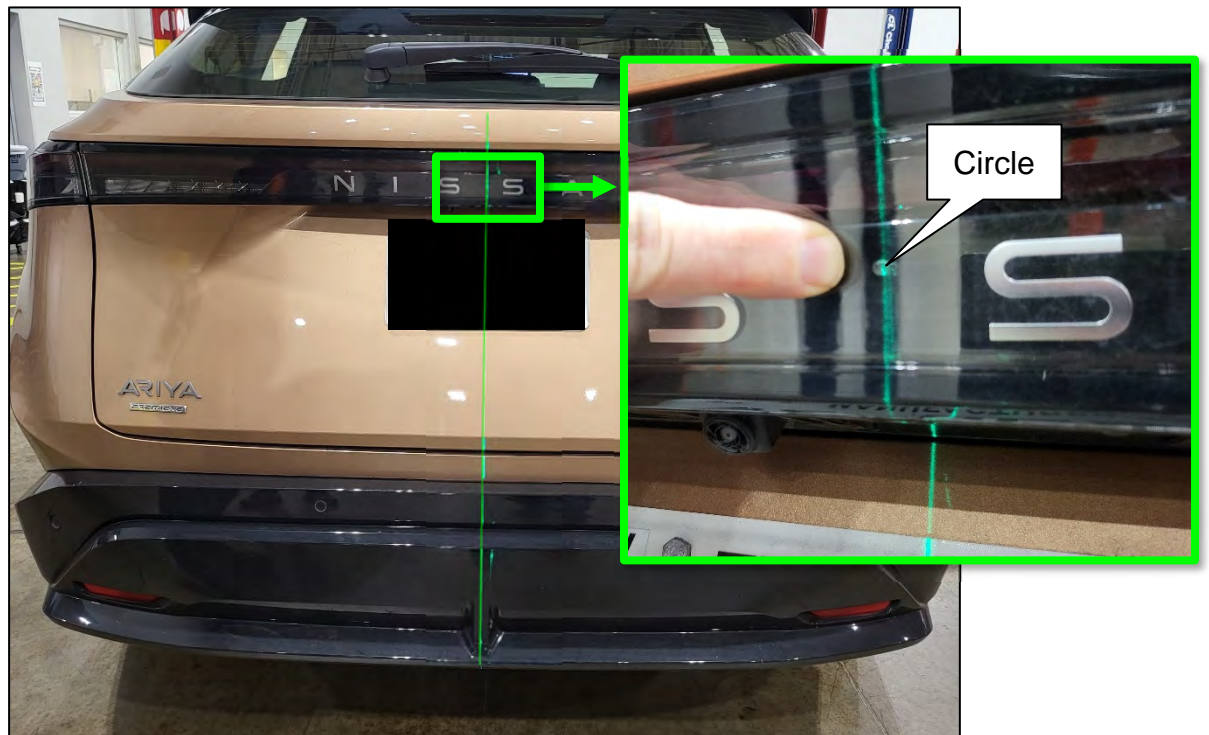

Figure 68
44. Place the laser level approximately 800 mm (31.5 in.) from the rear of the vehicle and align the laser with the center mark at the front of the vehicle and the circle in between the S's in NISSAN, as shown in Figure 68.